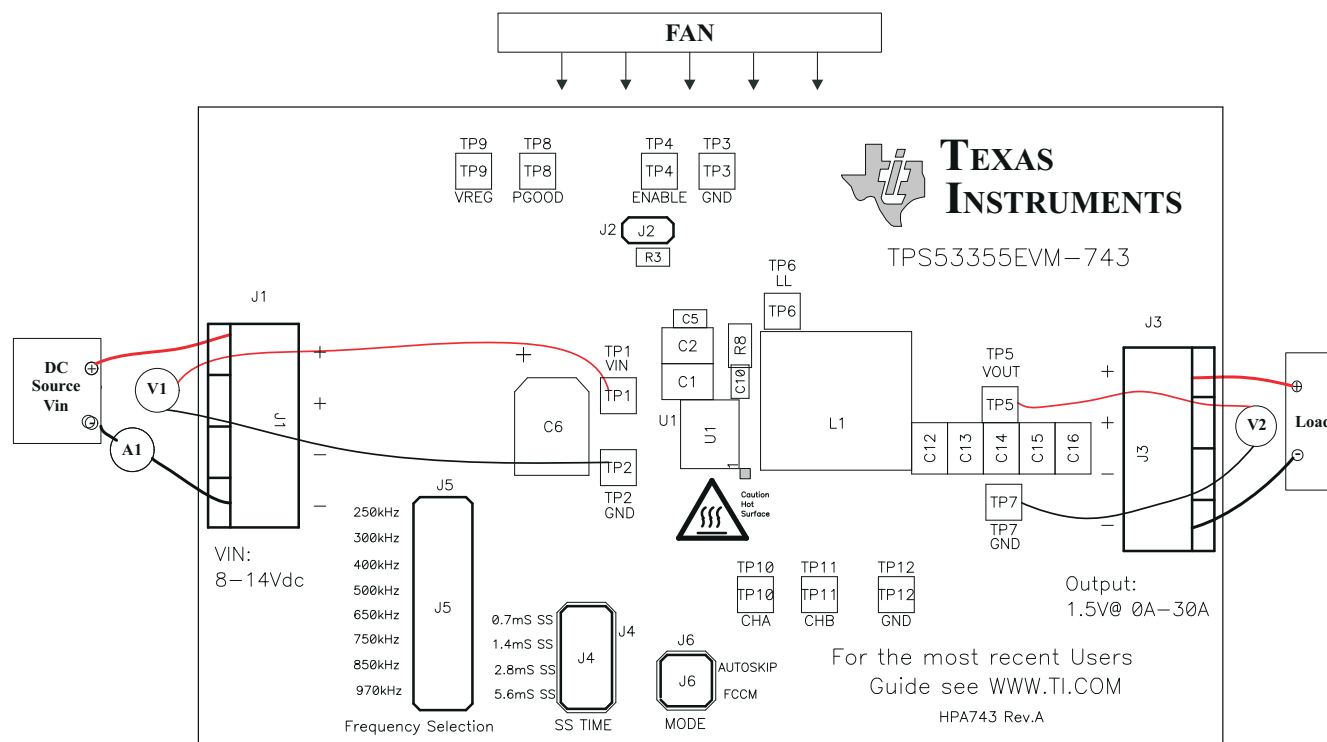

Figure 4-2. TPS53355EVM-743 Recommended Test Setup
Voltage Source: The input voltage source V_{IN} must be a 0-V to 14-V variable DC source capable of supplying 10 A_{DC}. Connect V_{IN} to J1 as shown in Figure 4-2.
Figure 4-2 is the recommended test setup to evaluate the TPS53355EVM-743. Working at an ESD workstation, ensure that any wrist straps, bootstraps, or mats are connected referencing the user to earth ground before power is applied to the EVM.
1. Prior to connecting the dc input source V_{IN} , it is advisable to limit the source current from V_{IN} to 10 A maximum. Ensure that V_{IN} is initially set to 0 V and connected as shown in Figure 4-2.
Place a fan as shown in Figure 4-2, and turn it on, making sure that air is flowing across the EVM.
1. Set up the EVM as described in Section 4 and Figure 4-2.